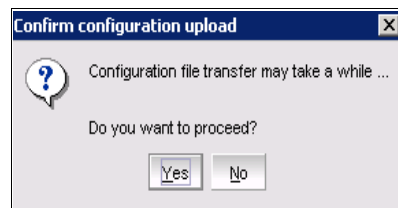

Figure 12-56 Confirmation for the configuration upload
5. Select **Yes** in the confirmation window, as shown in Figure 12-56.